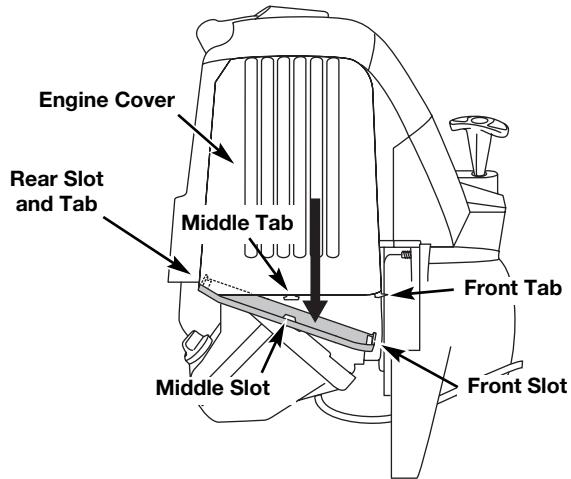

Fig. 30
- Remove the muffler cover by pressing down on it, separating it from the engine cover. Using a flat blade screwdriver, disengage the middle and front tabs and slots first. The cover will hinge off from the rear tab (Fig. 30).